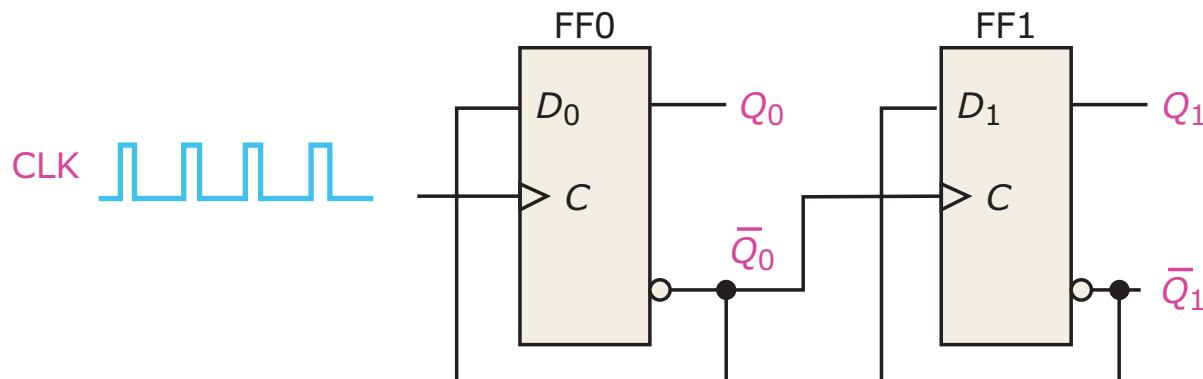

FIGURE 1.43 A 2-bit asynchronous binary counter
Figure 1.43 shows a 2-bit counter connected for asynchronous operation. Notice that the clock (CLK) is applied only to the clock input (C) of the first flip-flop FF0, which is always the least significant bit (LSB). The second flip-flop FF1 is triggered by the \bar{Q}_0 output of FF0. FF0 changes state at the positive-going edge of each clock pulse, but FF1 changes only when triggered by a positive-going transition of the \bar{Q}_0 output of FF0. Because of the inherent propagation delay time through a flip-flop, a transition of the input clock pulse (CLK) and a transition of the \bar{Q}_0 output of FF0 can never occur at exactly the same time. Therefore, the
TABLE 1.15 Binary state sequence for the counter shown in Fig 1.43
Since it goes through a binary sequence, the counter in Figure 1.43 is a binary counter. It actually counts the number of clock pulses up to three, and on the fourth pulse it recycles to its original state ($Q_0 = 0, Q_1 = 0$). The term recycle is commonly applied to counter operation, since it refers to the transition of the counter from its final state back to its original state.